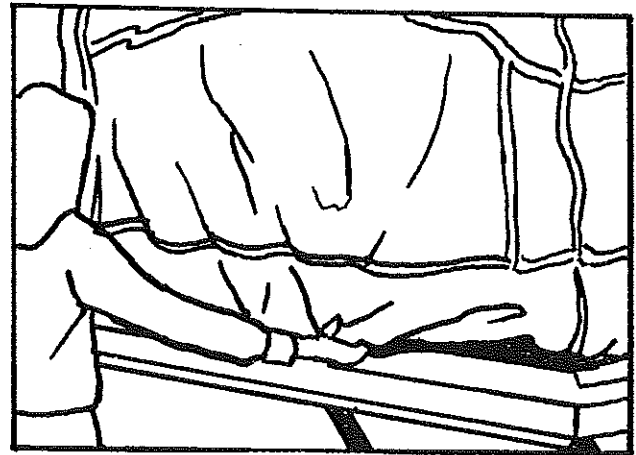

FIGURE 13
21. Pull the tent at the bottom over the bed edge and attach the exposed stretch cords to the nearest hooks on the underside of the bed. Repeat for other bed end. See Figure 13.